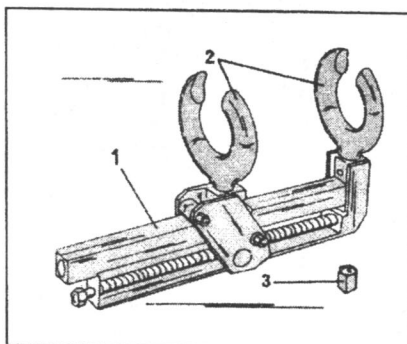
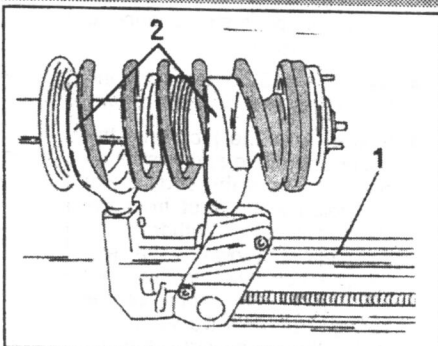

Fig. 5.3 — A suitable spring compressor to dismantle a spring strut. Anything similar is suitable.
Fig. 5.4. — The spring compressor (1) can be clamped into a vice. The claws (2) are placed around the coils of the spring.
Only the coil spring, the complete spring strut, the spring strut bearing and the sundry parts can be replaced. The spring strut cannot be dismantled. Never try to dismantle a spring strut without compressing the spring first. Fig. 5.3 shows a compressor as used in the workshop. A similar tool, available from tool hire companies for example, is suitable as long as the hooks can be replaced over 3 or 4 coils.
- Clamp the spring strut into a vice and fit the spring compressor. Fig. 5.4 shows the use of the compressor shown in Fig. 5.3. Make absolutely sure that the coils are securely retained in the compressor. Tighten the spring compressor until the spring can be rotated freely between the spring seats.